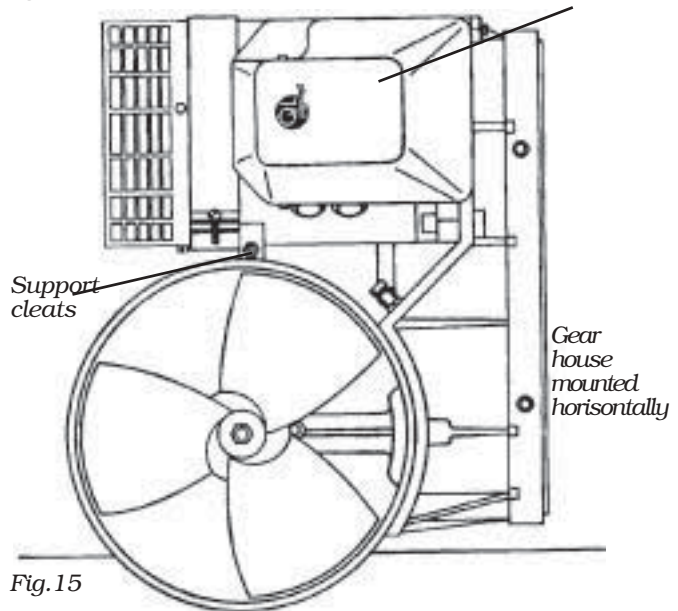

Fig.15
5. Fit the electric motor with its cover as in fig. 15.
8. Fix support blocks under the motor, please refer to fig. 15.